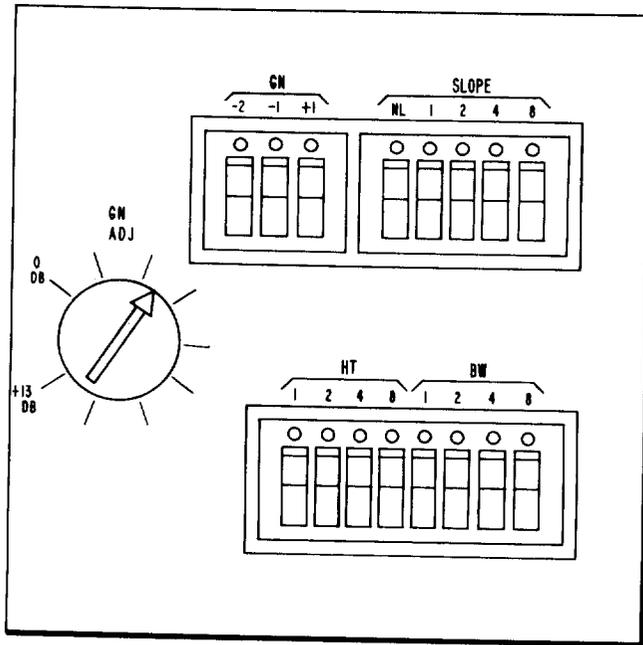

Fig. 7—309A Amplifier Unit Controls
2.03 The 309A unit provides gain only and is used in one transmission direction on the J99343RB, RH 4-2 and J99343RD, RG 2-4 loaded repeaters. Figure 7 shows the controls associated with the 309A unit.